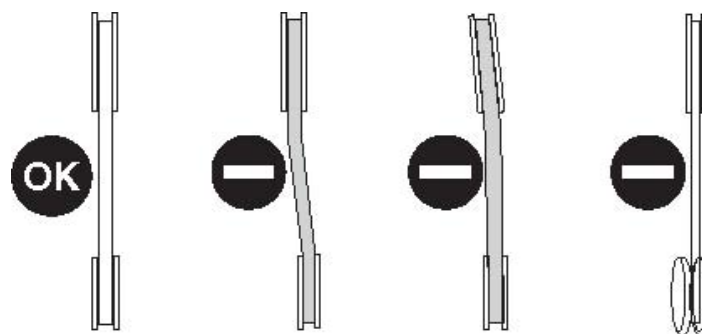

Figure 210: Unfavorable operating conditions (4)
- Disc worn / grooved not uniform / dust, dirt / moisture, humidity – **Figure 210**